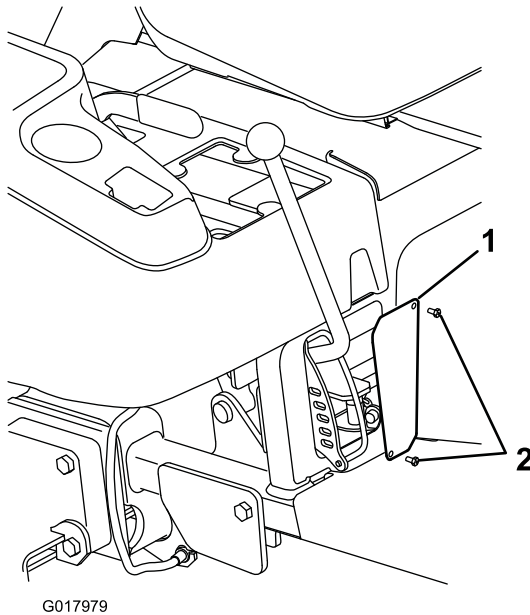

Figure 9
1. Install the new screen panel to the **back side** of the frame opening with 2 pan-head screws (#10 x 1/2 inch) (Figure 9).